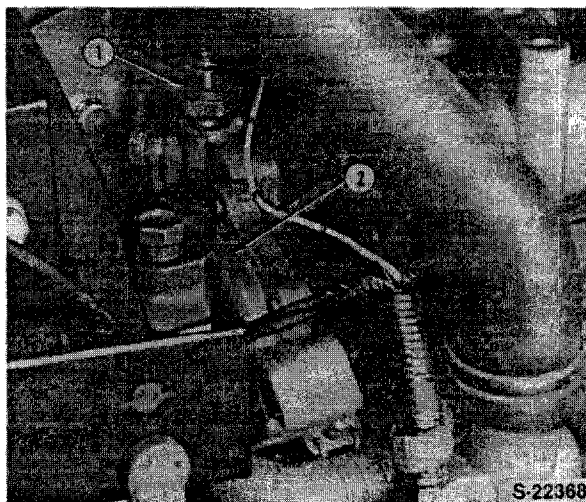

Figure 7
10. Remove the oil sender switch from the front of the cylinder head, Figure 7.
11. Remove the water pump assembly, Figure 7.